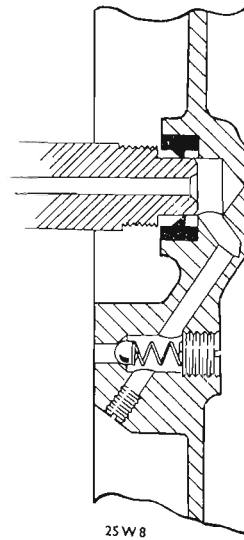

Fig. A8. Non-return valve
- (1) Ensure that the oil level in the reservoir is above the minimum line.
- (2) Remove both the oil reservoir and sump filters and thoroughly clean to ensure a free passage of oil.
- (3) Ensure that the oil pipes are correctly connected, i.e. not reversed.
- (4) Remove and examine the pressure release valve as mentioned in Section A8.
- (5) Examine the crankshaft oil seal and retaining circlip as described in Section B.
- (6) Ensure that both oil way plugs shown in Fig. A8 are screwed flush with the casting, and are secured by centre punching the alloy casting into both ends of each screwdriver slot.
- (7) Remove the oil pump and measure the exposed length of the locating dowels. If this length is not  $\frac{1}{32}$  in. less than the depth of counterbore in the pump body, the dowels must be shortened to ensure proper mating.
- (8) If the previous examinations prove unsatisfactory the oil pump should be checked as described in Section A11. The correct pump should have "S" stamped on the top spindle housing. If "V" is shown the pump must be replaced with the correct type.
The feed line non-return valve consists of a ball and spring and is located in the inner timing cover (see Fig. A8). After unscrewing the retaining plug, the valve spring and ball can be removed for examination.